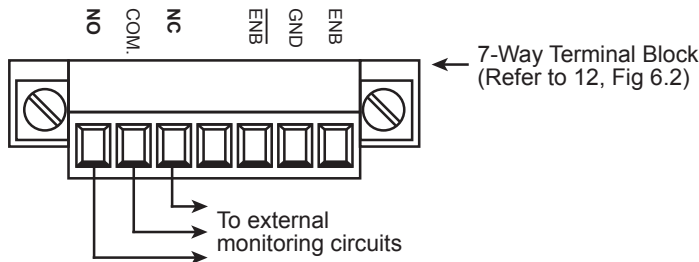

Fig 5.6 NO, COM & NC Relay contacts for external monitoring circuits
A Single Pole Double Throw (SPDT) relay with Normally Open (NO), Common and Normally Closed (NC) contacts has been provided to enable 2-wire remote monitoring of the following 6 alarm / fault conditions through contact switching (See Fig 5.6 below):
1. Fan Fault; 2. Over Voltage (OV) Alarm; 3. Under Voltage (UV) Alarm; 4. Overload Shut Down;